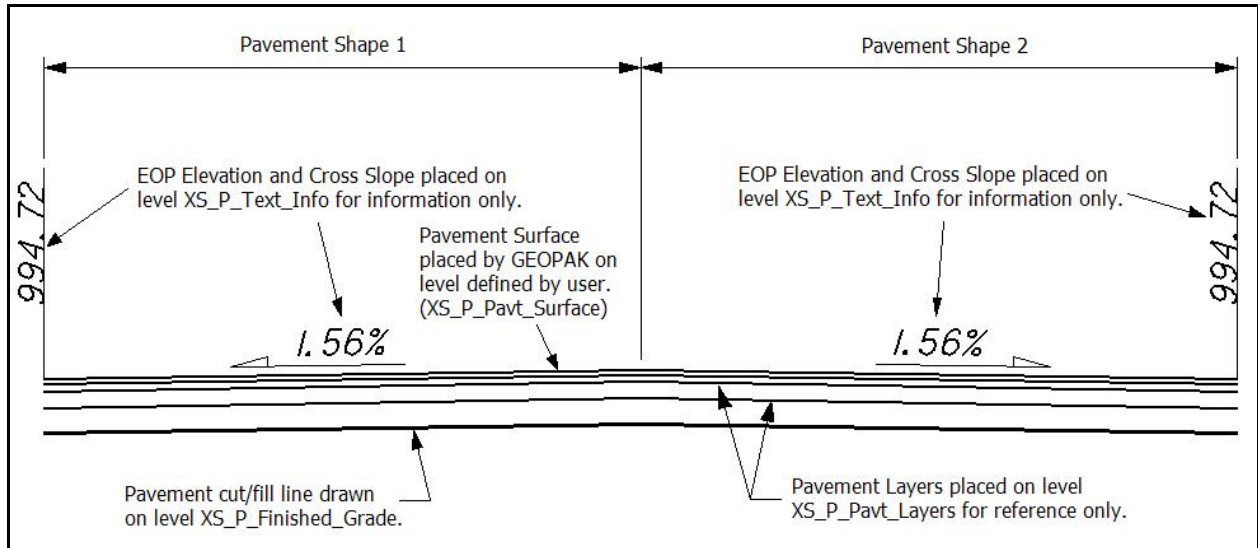

Figure 1
**PAVT.X** is used to draw up to six proposed pavement layers beneath a set of GEOPAK pavement shapes. A maximum of 5 pavement shapes can be processed for each shape cluster. The pavement layers are drawn at the slope and width defined for each pavement shape as shown in Figure 1 below.